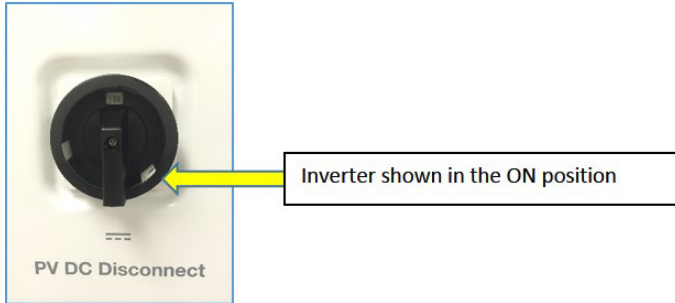

Figure 8 DC disconnect switch
- Turn ON the DC voltage using the switch on the front of the inverter switch box, as shown in Figure 8 below.